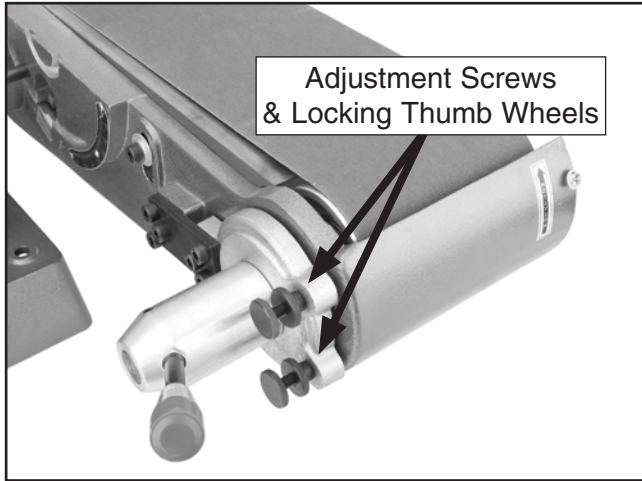

Figure 50. Upper roller adjustment screws and locking thumb wheels.
6. Fully loosen the locking thumb wheels on both of the roller adjustment screws shown in **Figure 50**.